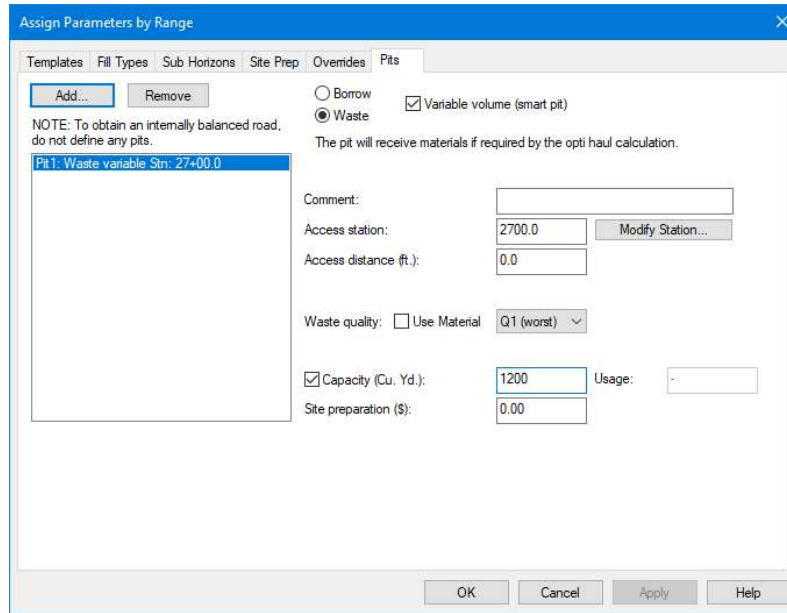

Figure 8-6: Assign Parameters by Range /Pits
17. Enter **1200** for *Capacity (Cu. Yd)* (see Figure 8-6 below).